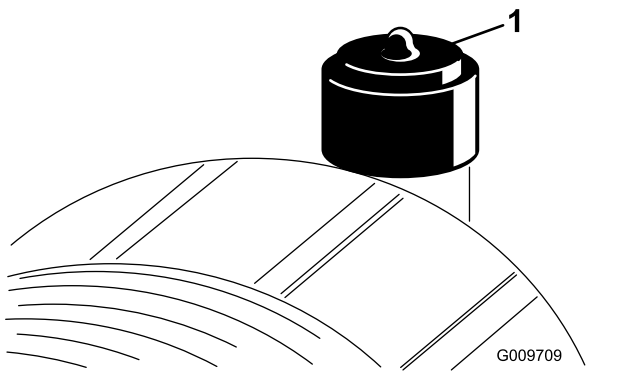

Figure 53
Service the air-cleaner element only when the restriction indicator (Figure 53) requires it. Changing the air cleaner element before it is necessary increases the chance of dirt entering the engine when you remove the element.
2. Reset the restriction indicator (Figure 53) if it shows red.